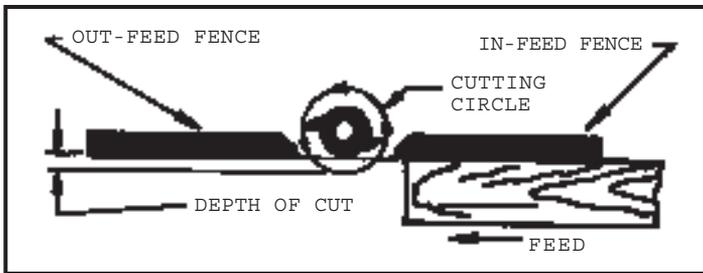

Fig. 17
**WARNING:** Figures 17 and 20 through 27 show machine with cutter guards removed for clarity. NEVER OPERATE Router/Shaper without guards in place.
The cutter rotates in a counterclockwise direction (viewing from above). Always feed work against the cutter rotation as shown in Fig. 17.